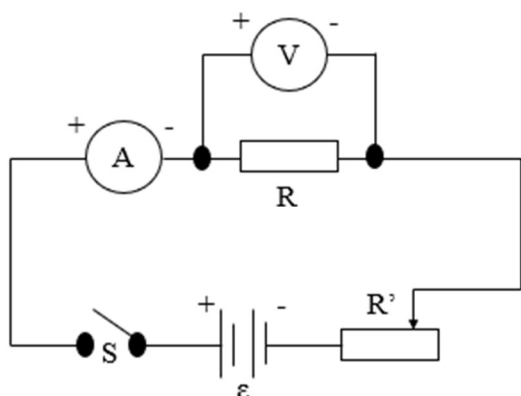

Figure 1
1. Use the low-resistance method by connecting the circuit as shown in Figure 1.